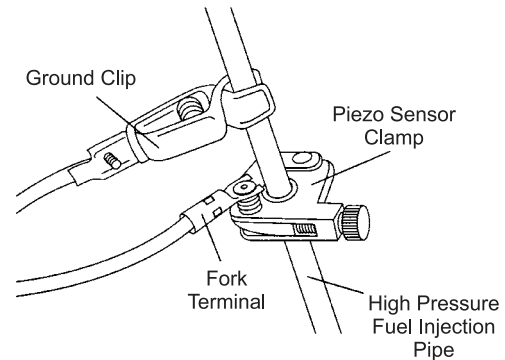

Fig. 1 Piezo Sensor Clamp Set Up
1. Clamp the sensor clamp onto a clean unpainted section of any diesel injection pipe. Do not over tighten the thumb screw. (see Fig. 1)